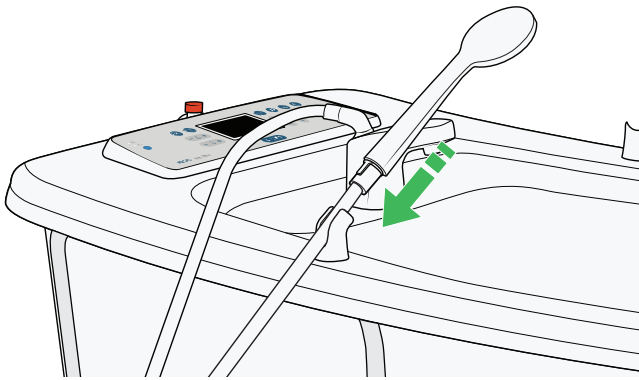

Figure 136
2. Place the shower handle in the shower holder. See Figure 136.